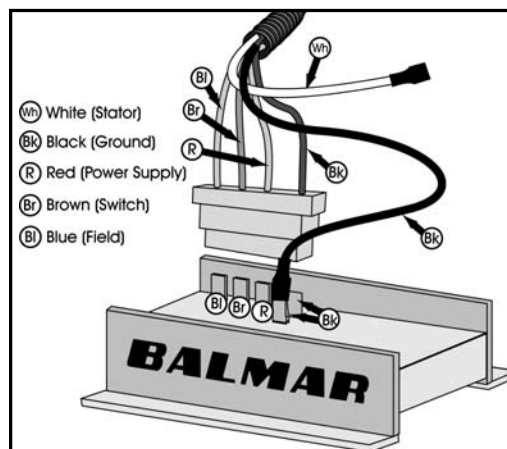
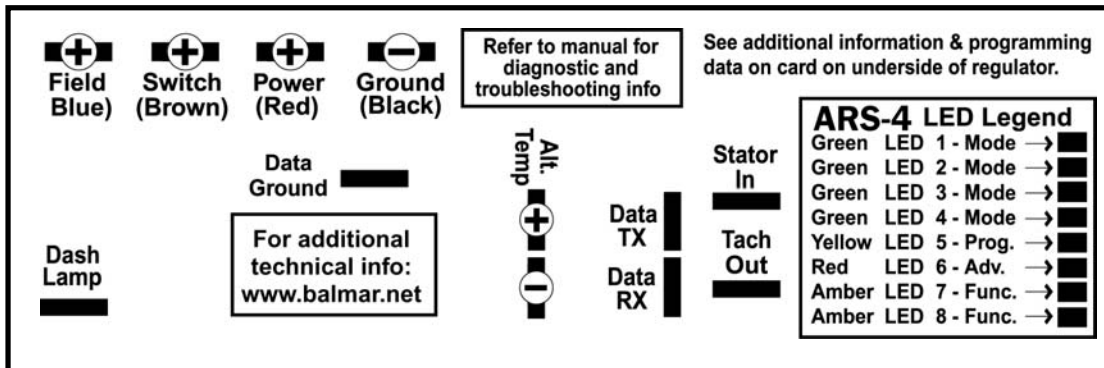

Figure 1 - Regulator wiring harness.
Figure 4 - Regulator terminal layout.
2. If not pre-connected at the factory, attach the inline, fourplex plug to the regulator (see Figure 1). Connect the second ground wire (**BLACK**) to the Data Ground terminal. See Figure 4 on Page 2 for location.
ARS-4 regulators are factory preset for universal, “plug-and-play” operation with most battery types. In addition to the default factory program, both models feature selectable programs for Deep-Cycle flooded, AGM, Gel and Optima battery types. (A list of detailed voltage and time values for the various presets is available on the **Page 2**, see Figure 4.) A magnetic reed switch, located beside the first green LED enables user adjustment. The switch works in two specific actions, as described in the box at right.
The onset of sulfation can be lessened in some battery types by periodic introduction of elevated voltage to the battery. See **Figure 4** on Page 2 to determine if your battery type will benefit from equalization. Voltage values are based on system voltages determined by your preset program. CAUTION: Consult with your battery manufacturer for recommended equalization time and voltage. Both time and voltage values must be set for equalization to occur.